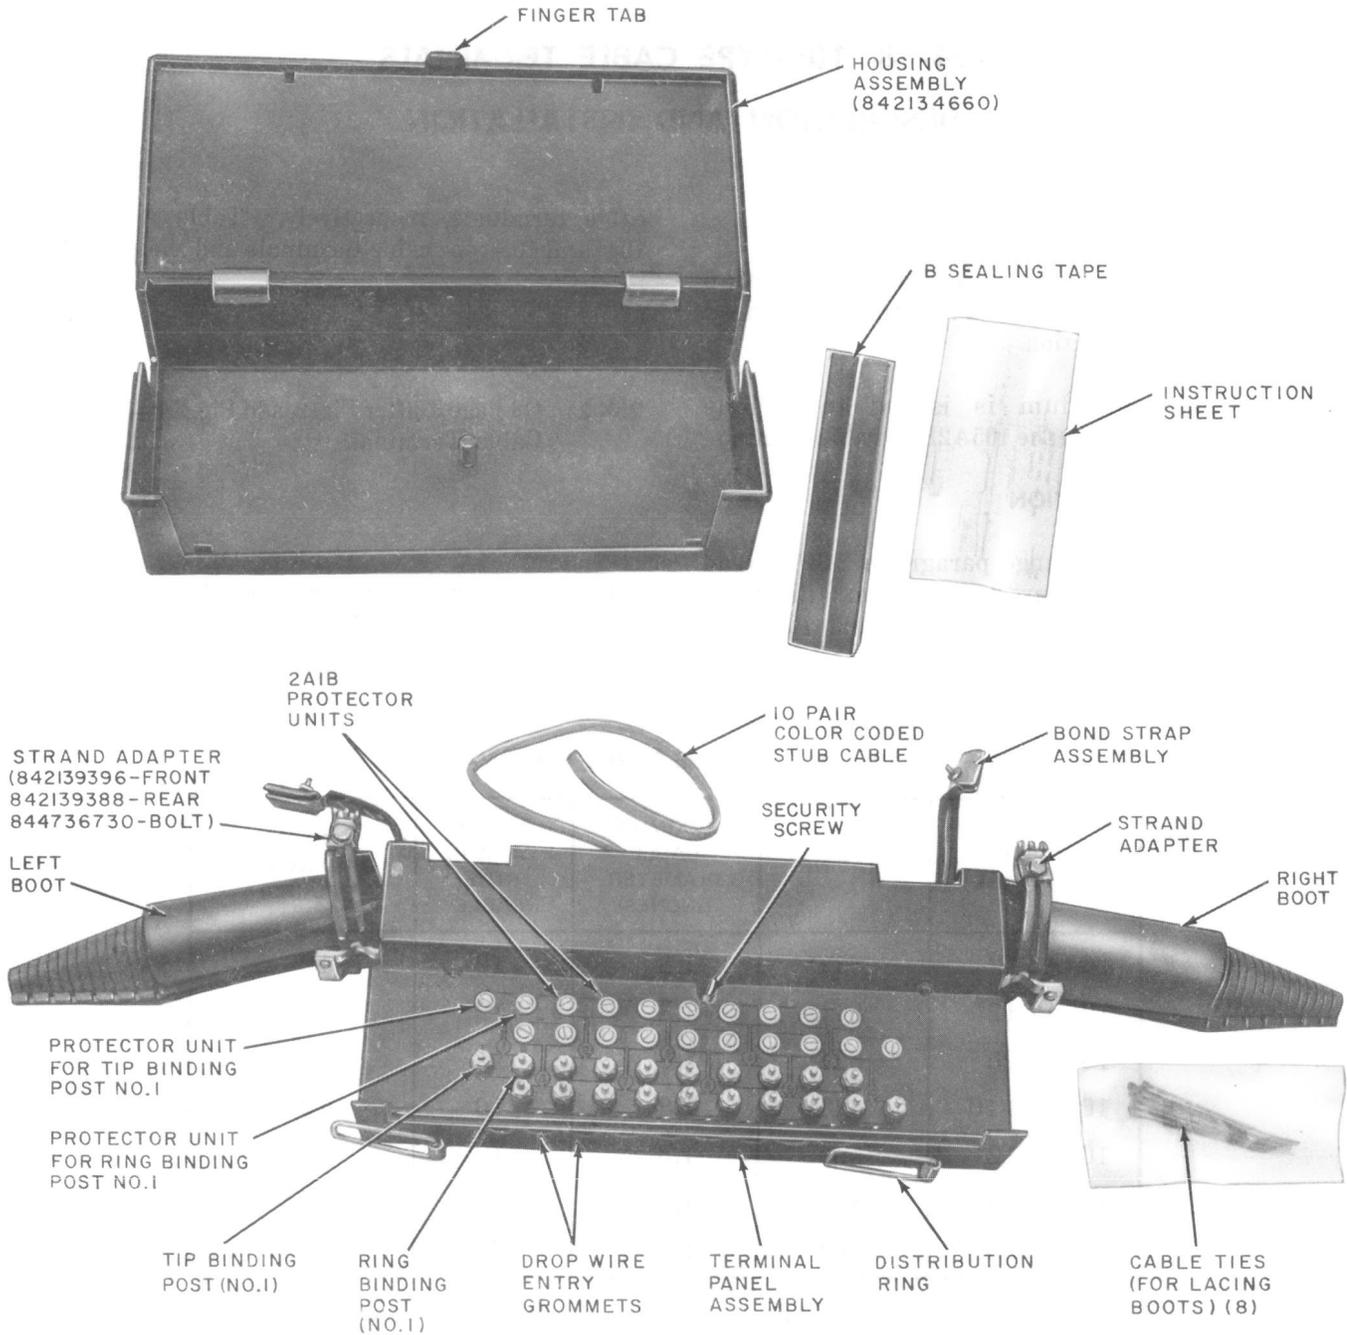

Fig. 2A—105A2B-10 Cable Terminal
2.002 On Page 3, after Fig. 2, add Fig. 2A—105A2B-10 Cable Terminal.